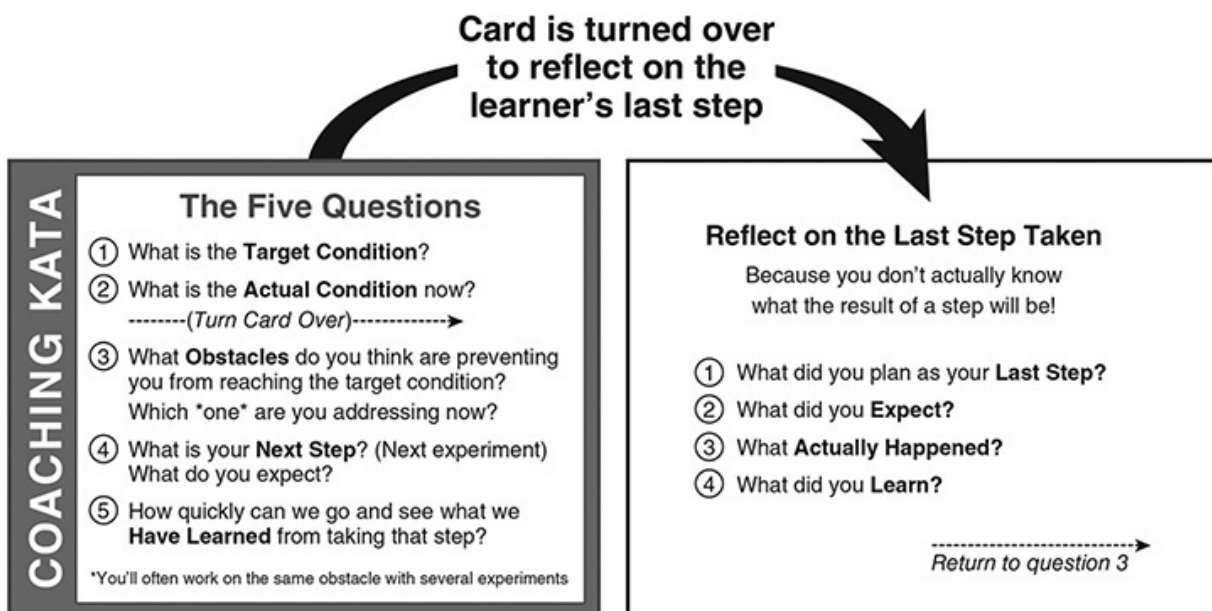

Figure 12.6 A starter kata for the coach.
team. The coach meets regularly, ideally daily, with the learner. Rother also developed a coaching kata (CK) that helps get the coach engaged with a “five-question” starter kata (see Figure 12.6). The learner documents his or her IK process on a storyboard, which itself is one of the starter kata routines. The coach asks questions from each category, which mirrors the IK pattern. They are nested questions beginning with the target condition and actual condition, and on the flip side are questions to reflect on the last experiment that the learner has run. Each experiment is practiced via another starter kata, following the pattern of description, prediction, results, and reflection (PDCA). The comparison between prediction and actual results provides an opportunity for learning.